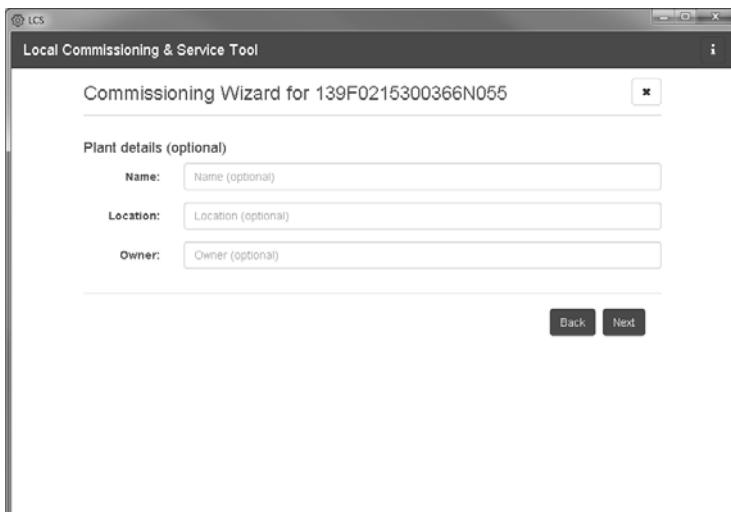

Figure 5.4 LCS tool - PV system details
5. Optionally, you can assign a name, location and owner of the Inverter Manager. See figure 5.4.